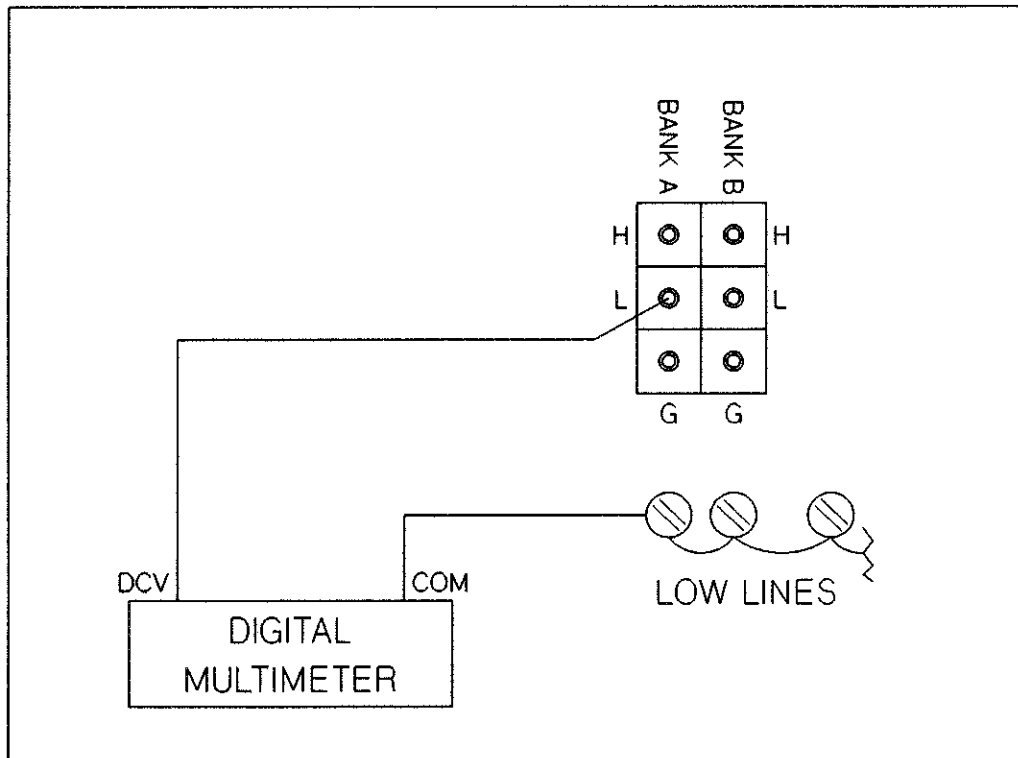

Figure 8-28 HP 44705A/H Bank A LOW to Common Thermal Offset
7. Connect the multimeter test leads between the Bank A common LOW test point and the shorted LOW connections of the test fixture as shown in Figure 8-28.